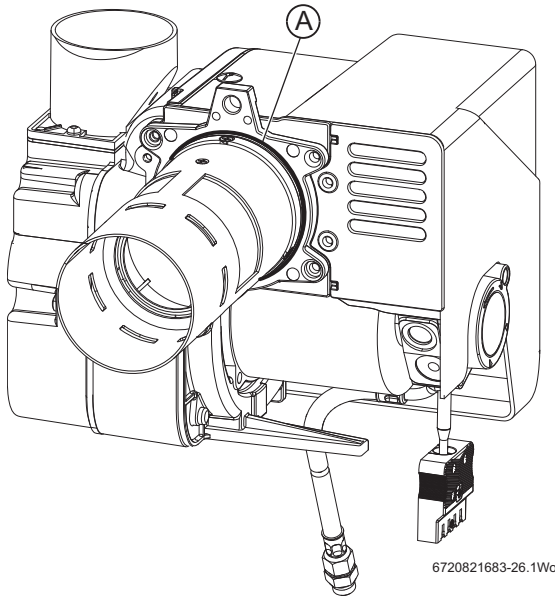

Fig. 53 12/18 Burner O-ring seal shown
- ▶ Always check that the O-ring seal (Fig. 53 item A) is in good condition before fitting the burner. Replace the O-ring seal if defective.